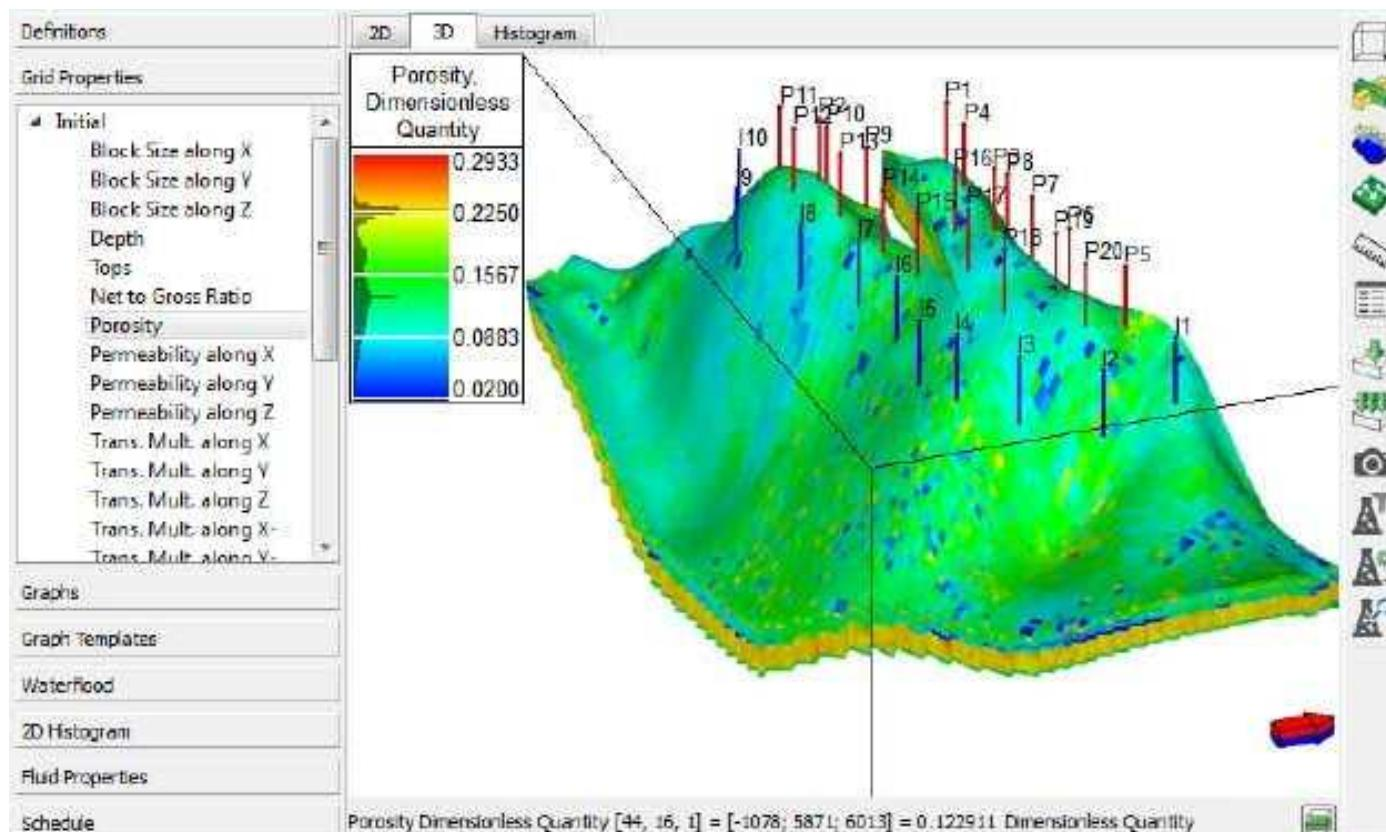

Figure 45. 2D. 3D. Histogram.
- Display options: 2D, 3D, Histogram – figure 45.
- Bringing the cursor to a block shows the block's information below the visualization: the block's coordinates in the grid (in blocks), the block's coordinates (in METRIC: m, FIELD: ft), and the value and the name of the shown parameter in the block (see figure 45).